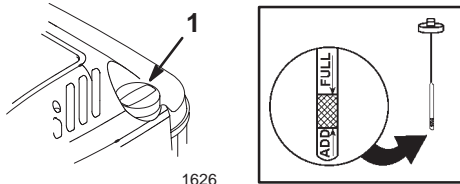

Figure 5
Before each use, ensure that the oil level is between the **Add** and the **Full** marks on the dipstick (Fig. 5).
2. Clean around the dipstick (Fig. 5).
6. Read the oil level on the dipstick (Fig. 5).